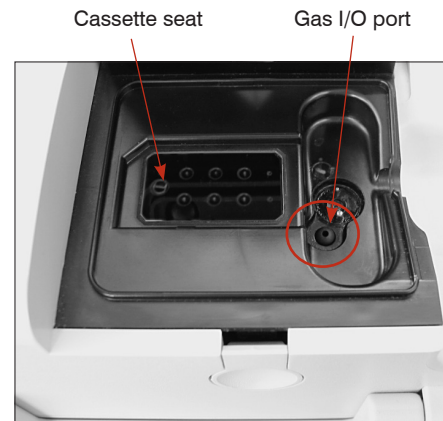

Figure I-5: Inside the sample measurement chamber
- Open the SMC cover. Remove the black gas I/O port seal (Figure I-5) by grasping it with a hemostat or tweezers and firmly pulling upward. Discard the old gas I/O port seal.